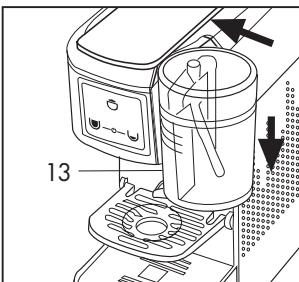

Fig. 19
Place the beaker (13) in its seat on the machine, pushing it well against the machine, right to the bottom. (**Fig. 19**)